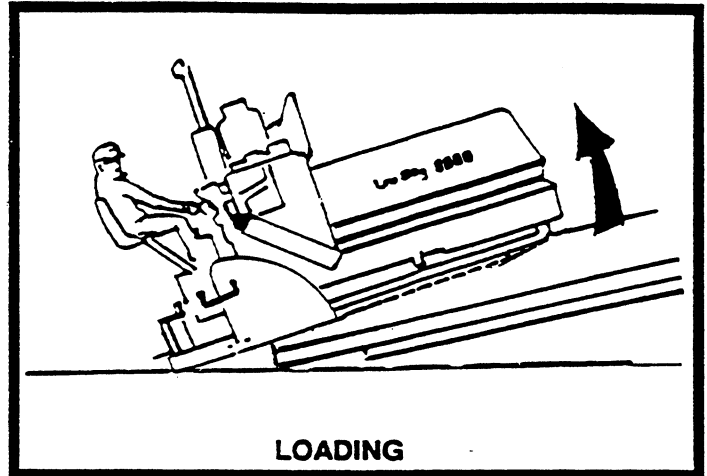

FIGURE 15
3. With the steering control levers slowly guide the paver up the ramp. If the paver is loaded hopper first, the weight of the operator on the walkway will tend to tip the paver onto the screed. See figure 15.